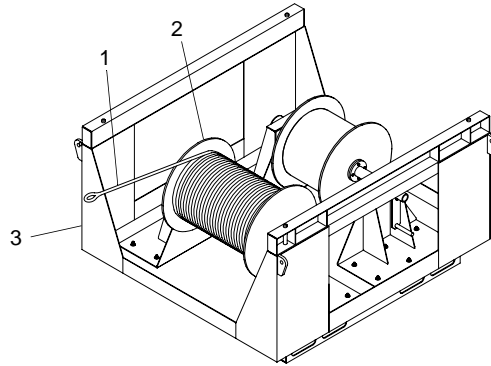

Figure 14. Mooring Cable Pallet
10. Using hand crank on spool (figure 14, item 2), reel mooring cable (figure 14, item 1) onto spool (figure 14, item 2) in mooring cable pallet (figure 14, item 3).